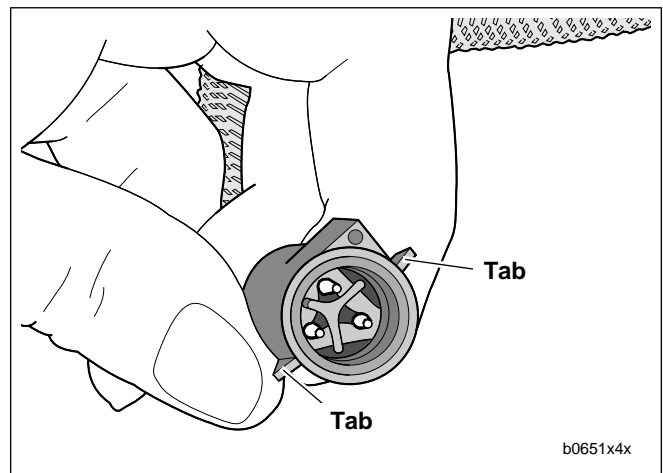

Figure 4-83. Tabs on TP Sensor Connector [88A]
4. See Figure 4-83. Attach throttle position sensor connector [88]. Slots on female connector [88B] must fully engage tabs on male connector housing [88A].